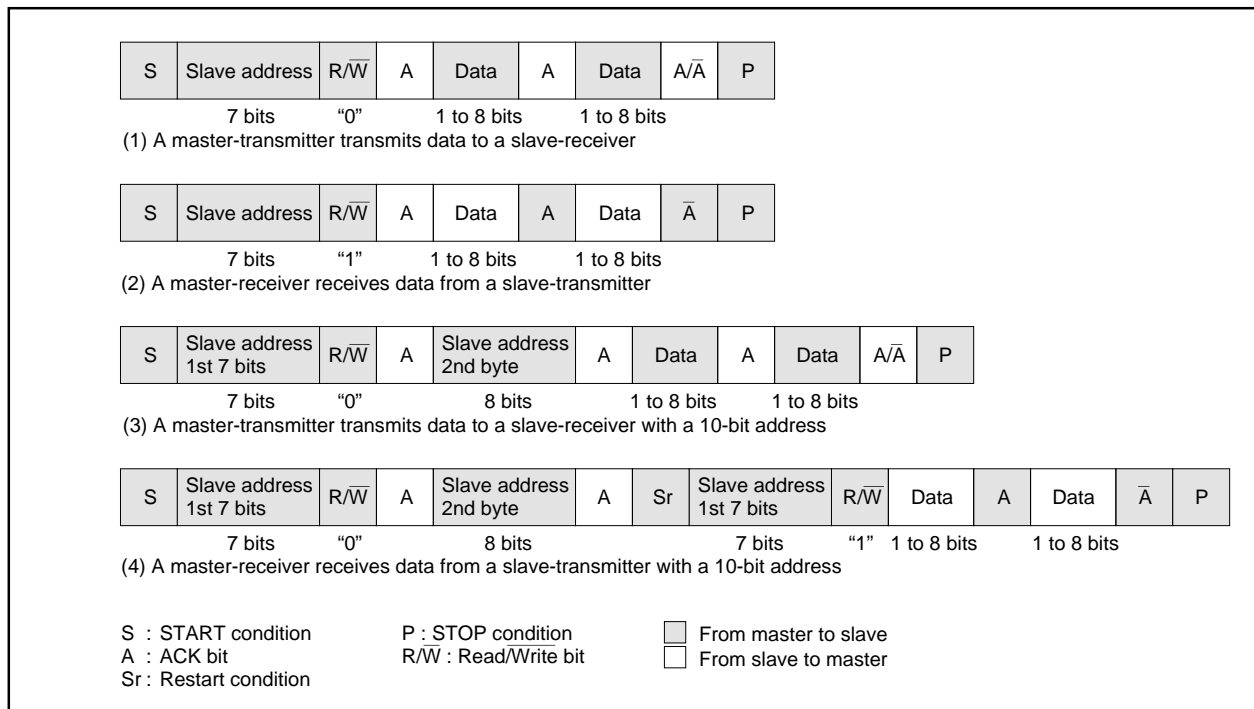

Fig. 24. Address data communication format
To meet the 7-bit addressing format, set the 10BIT SAD bit of the I2C control register (address 00DA16) to "0." The first 7-bit address data transmitted from the master is compared with the high-order 7-bit slave address stored in the I2C address register (address 00D816). At the time of this comparison, address comparison of the RBW bit of the I2C address register (address 00D816) is not made. For the data transmission format when the 7-bit addressing format is selected, refer to Figure 24, (1) and (2).
When the first-byte address data matches the slave address, the AAS bit of the I2C status register (address 00D916) is set to "1." After the second-byte address data is stored into the I2C data shift register (address 00D716), make an address comparison between the second-byte data and the slave address by software. When the address data of the 2nd byte matches the slave address, set the RBW bit of the I2C address register (address 00D816) to "1" by software. This processing can match the 7-bit slave address and R/W data, which are received after a RESTART condition is detected, with the value of the I2C address register (address 00D816). For the data transmission format when the 10-bit addressing format is selected, refer to Figure 24, (3) and (4).